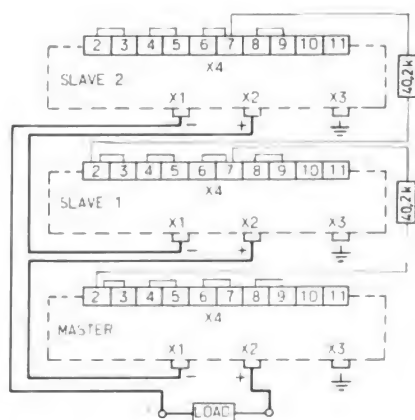

Fig. 8h. Series connection according to "Master-Slave" system
- By connecting in accordance with the Master-Slave system (see Fig. 3h.). The output voltage of every instrument is adjusted by means of R1 and R2 of the "master" instrument. The controls R1 and R2 of the "slave" instruments must be turned completely to the left. When R3 and R4 of the slave instruments are set at maximum output current, it is possible to adjust for maximum load current with R3 and R4 of the master instrument. For series connection in accordance with this system, a 40,5 k Ω , 1 %, 0,1 W resistor must be added and terminal block X4 must be wired, as shown in Fig. 8h.